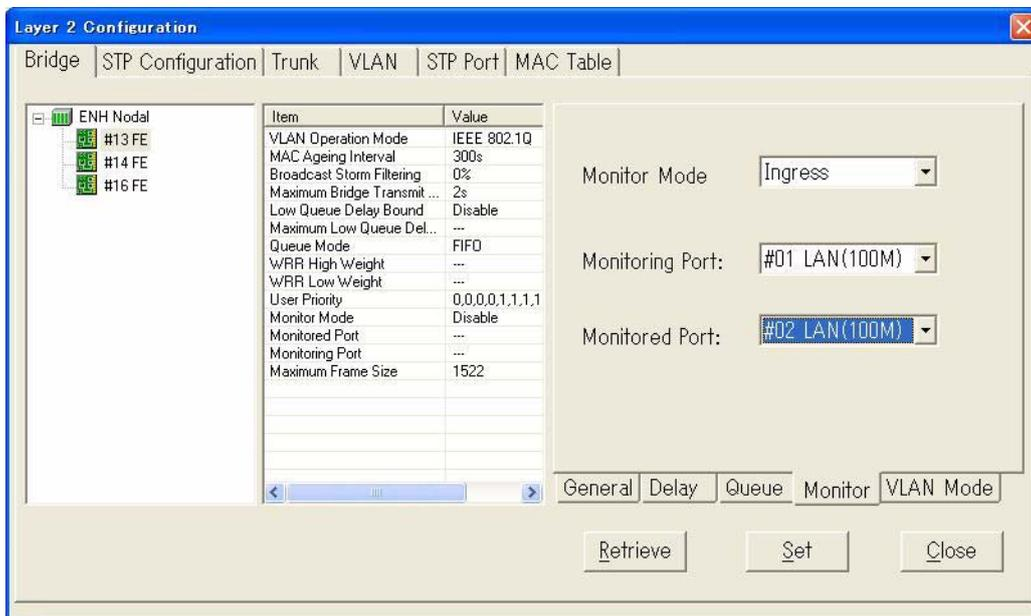

Fig. 4-4-62 Monitor Setting
- 7 In order to set the **Monitor Mode**, **Monitoring Port** and **Monitored Port**, select **Monitor** in the bottom of window, shown in Fig. 4-4-62.